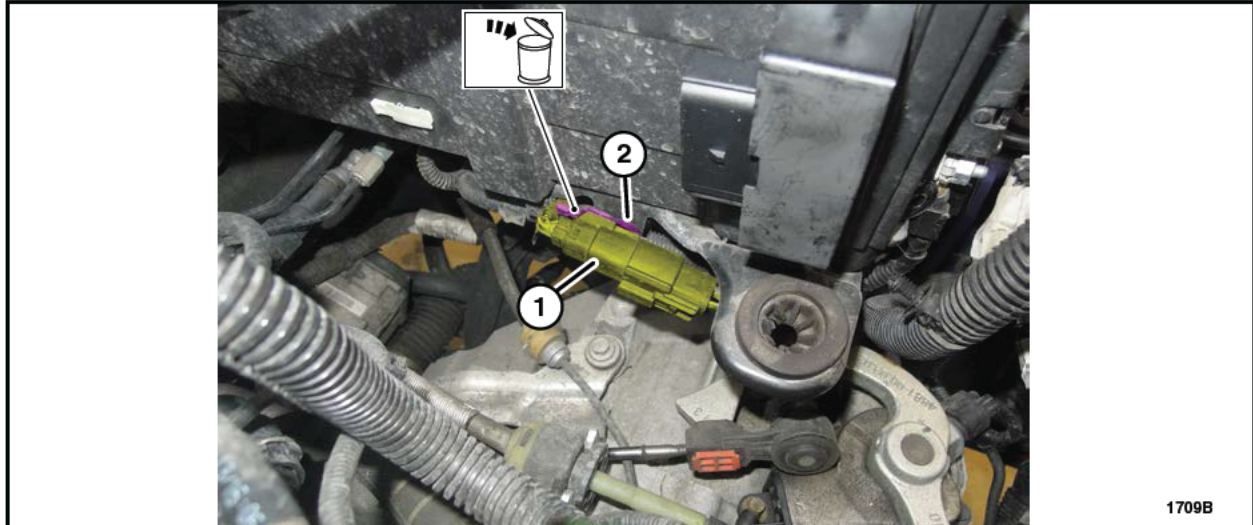

FIGURE D1
1. Detach the retaining clip from the battery tray mounting bracket and disconnect the EPAS electrical connector. See Figure D1.
2. Remove and discard the retaining clip from the EPAS electrical connector. See Figure D1.